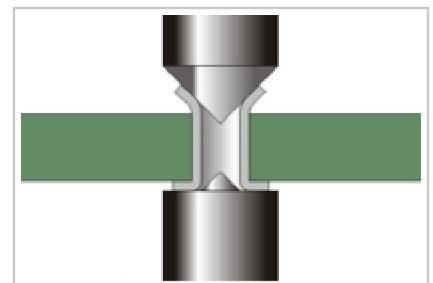

Figure 2: Flare the eyelet barrel using the flare end of the setting tool.
6. Lower the ram of the Eyelet Press and flare the barrel of the Eyelet by applying moderate force using the Eyelet Press. (See Figure 2)